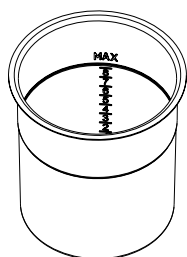

Fig 1
- Fill the deposit (F) taking care to observe the MAX level (Fig. 1)